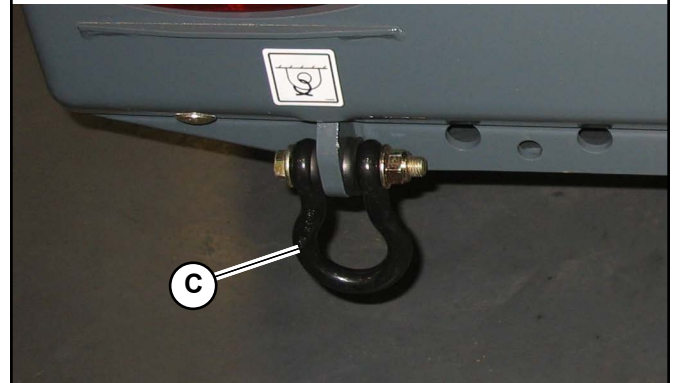

Fig. 147 – Rear Tie-Down Points
1. Attach the tow bar/cable to the rear frame tie-down points (C, Fig. 147) located at the rear of the machine.